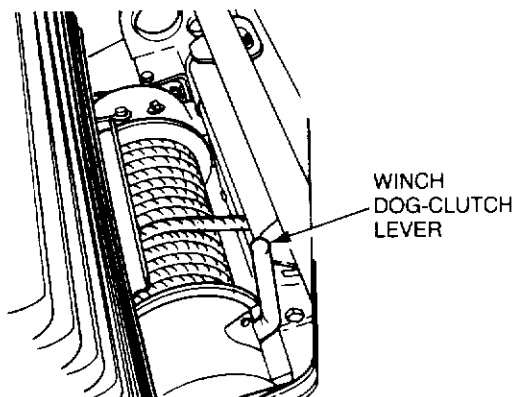

Figure 2-6 Winch dog-clutch operation
- a. Ensure that the engine is switched OFF, then set the winch dog-clutch lever to the vertical position (see Fig. 2-6) to disengage the dog-clutch. Reel out the winch rope as required.